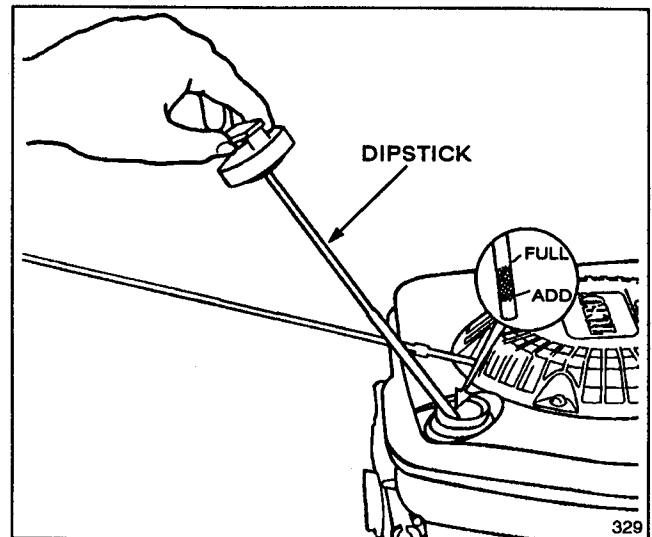

Figure 3
Before each use, ensure oil level is between FULL and ADD marks on dipstick (Fig. 3). Add oil if level is low.
1. Position mower on level surface and clean around oil dipstick (Fig. 3).
3. Wipe dipstick and insert it into filler neck. Rotate cap clockwise 1/4 turn. Then remove dipstick and check level of oil on side of dipstick with FULL and ADD marks (Fig. 3). If level is low, add only enough oil to raise level to FULL mark on dipstick. **DO NOT FILL ABOVE FULL MARK BECAUSE ENGINE COULD BE DAMAGED WHEN STARTED. POUR OIL SLOWLY.**
1. Clean around fuel tank cap and remove cap from tank (Fig. 3). Using unleaded gasoline, fill fuel tank to within 1/4" to 1/2" (6 to 13 mm) from top of tank, not into filler neck. Do not fill tank full.